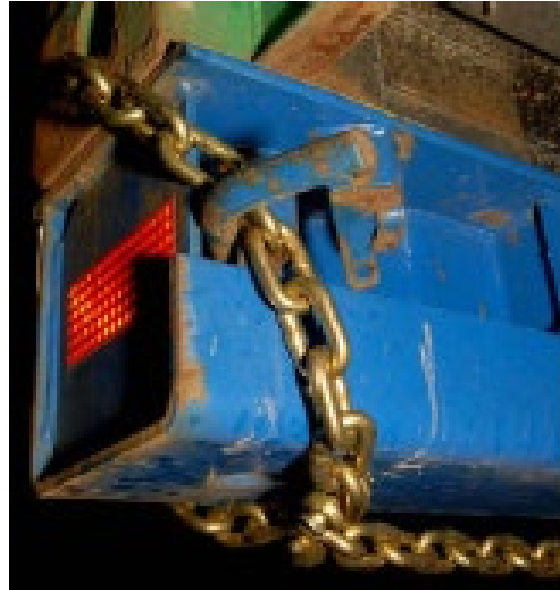

Figure 3: Chain Tie-down
1. 49 CFR §393.126 allows a corner of an intermodal container to be secured on an intermodal chassis by any securement devices or an integral locking device providing each corner is independently secured (see Operational Policy 15 Cargo Securement b.(13)). Through an interpretation, Canadian NSC Standard 10 only permits the use of chain or wire rope to secure the corner of an intermodal container, and only as a temporary tiedown to replace a defective or broken integral locking device. An example is shown in Figure 3.